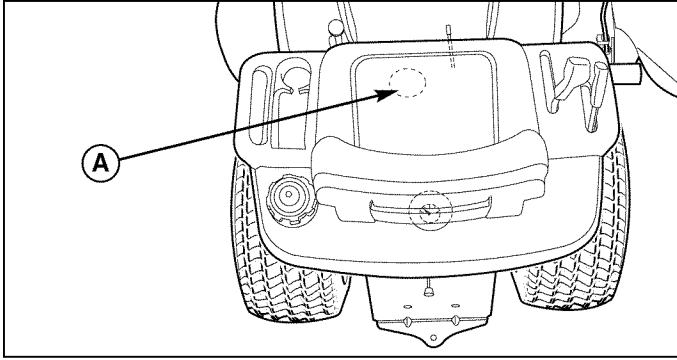

Figure 36. Seat Deck Access Plug
1. Slide the seat assembly back to access the plastic plug in the top of the seat deck (see Figure 36). Remove the plug.